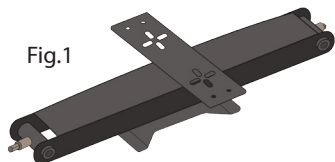
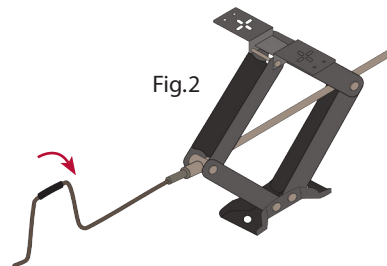

Fig.1
Fig.2
1. With the scissor jack in the retracted position (Fig.1) apply the hex head coupler on the hand crank to the hex head of scissor jack (Fig.2).
2. Rotate crank handle clockwise to extend scissor jack. (Fig.2)